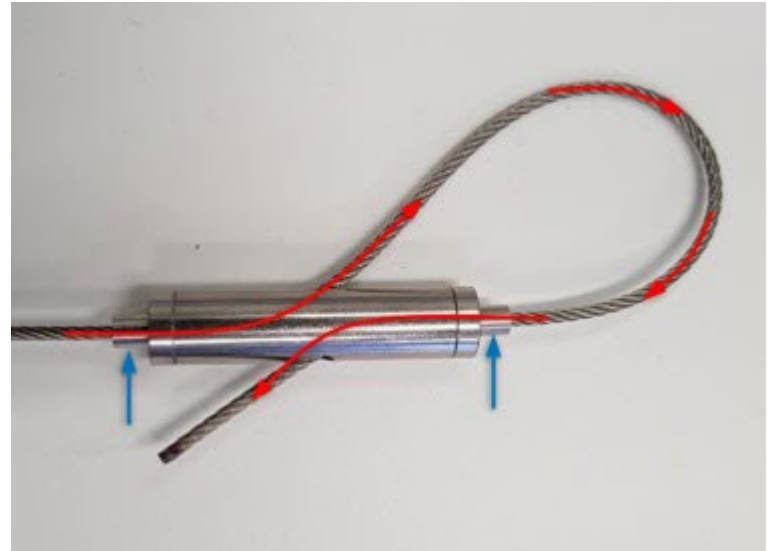

Figure 6 Lock Mechanism Orientation
2. Feed the cable through one end of the locking mechanism as shown in Figure 6.
4. Make sure the ends of the lock mechanism are in the locked position (out) as indicated by the blue arrows as shown in Figure 6.